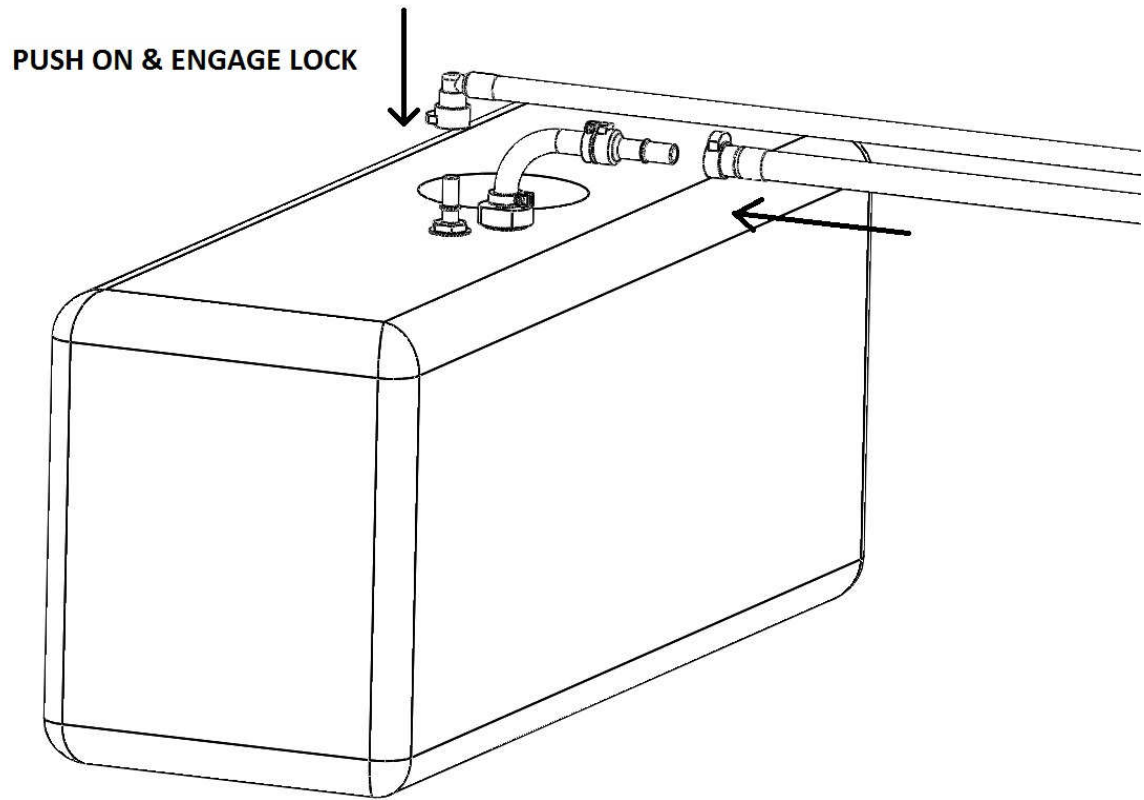

FIGURE 1-9
11. Reinstall the factory pickup assembly noting the position of the fuel level as it was removed. Position the tank under the vehicle and attach the feed and return lines. Place rubber cap over factory feed line connection and secure with tie wrap. Raise tank and position it into place. **FIGURE 1-9**